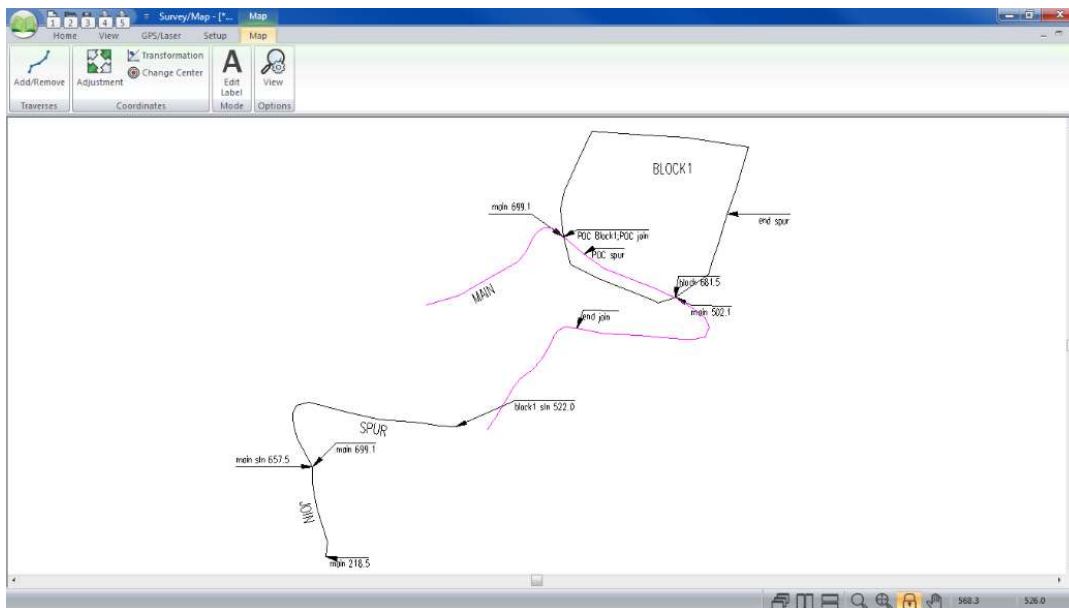

Figure 5-13: Method2.map before Adjusting spur.tr1
- This step coincides with Step 4 of Figure 5.13. Press New and make sure that *Close* is checked. Press OK then Apply. The **Block1** traverse will close.